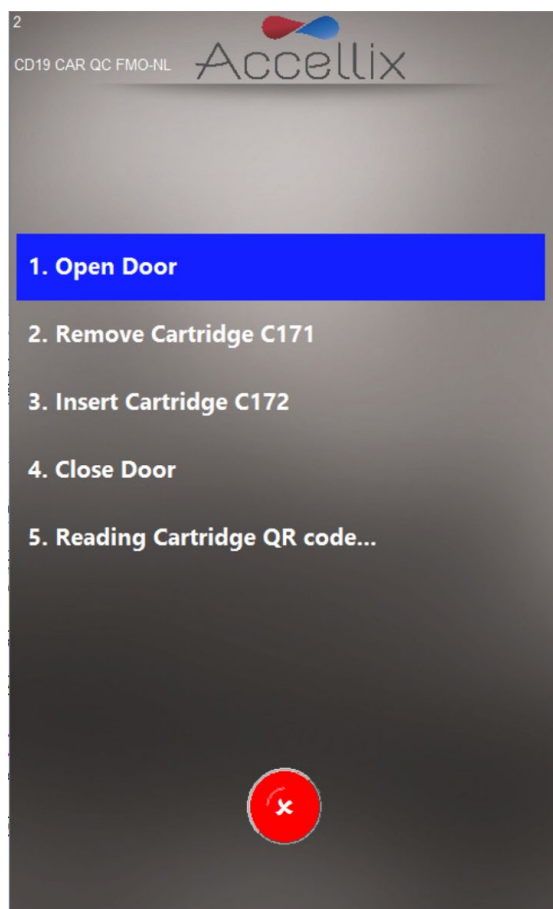

Figure 45: Multi-cartridge Remove Cartridge screen
1. The **Multi-cartridge Remove Cartridge** screen instructs the user to remove the first cartridge and insert the next cartridge in the sequence (Figure 45).